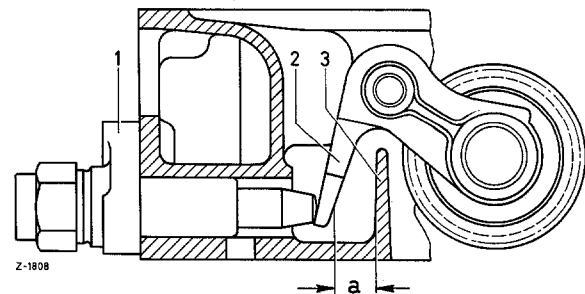

Figure 05-20/1
- a) Normal wear may lead to an elongation of the double roller chain which will result in rattling noises, as well as change delivery (begin of feed) of the injection pump and the timing. When the vehicle is serviced according to plan E the reserve distance "a" of the chain tightener should be measured. This is done by means of a gauge 2 mm thick, part No. 621 589 02 23 00, which is inserted from the front, in-between lever (2) of the idler sprocket support and web (3) of the cylinder head (refer to Figure 05-20/1).